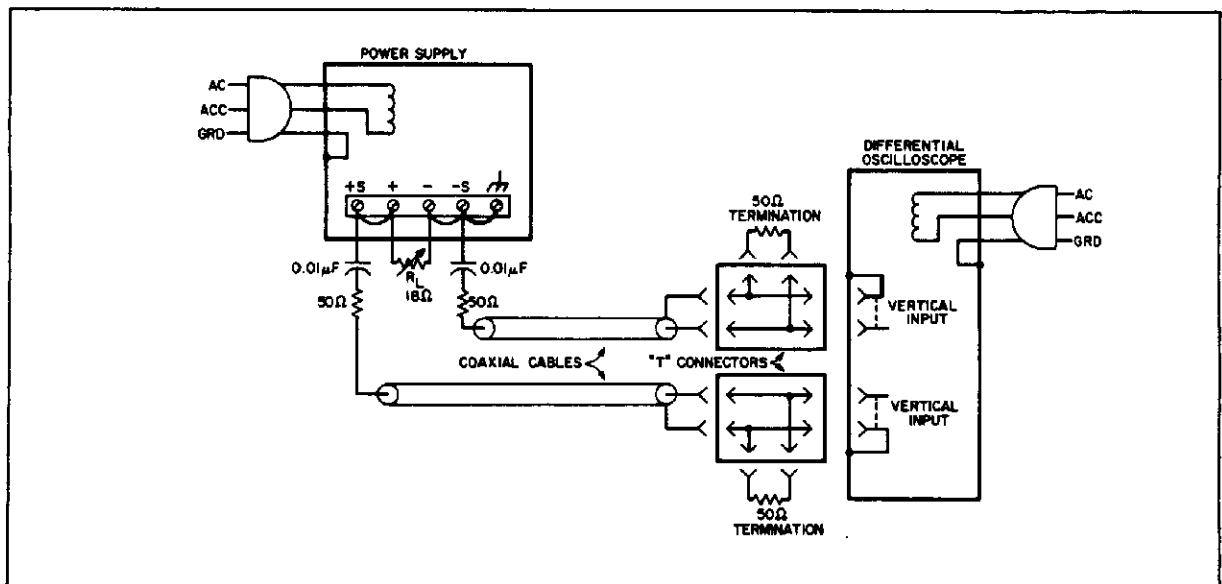

Figure 5-4. Constant-Voltage Noise Spike Measurement Test Setup
5-28 Figure 5-4 shows the test setup used to measure noise spikes. Two coaxial cables must be used. Impedance-matching resistors must be included to eliminate standing waves and cable ringing, and capacitors must be connected to block dc. The length of the test leads outside the coaxial cable should be kept as short as possible.
- a. Connect the test setup shown in Figure 5-4.
5-30 The circuit of Figure 5-4 can also be used for the display of low-frequency ripple. Simply remove the four terminating resistors and the blocking capacitors and substitute a higher-gain vertical plug-in for the wide-band plug-in required for spike measurements.